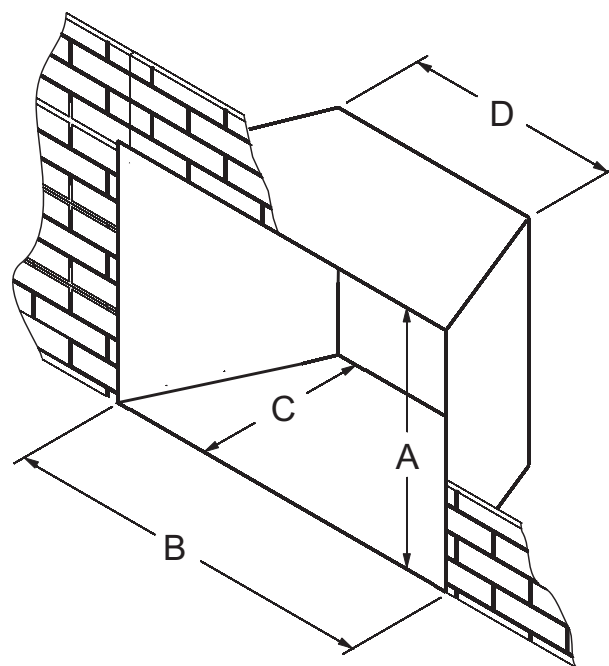

Figure 2
2. Minimum fireplace opening requirements are shown in **Figure 2** of this installation manual. The firebrick (refractory), glass doors, screen rails, screen mesh and log grates can be removed from a fireplace in order to gain minimum gas insert opening requirements prior to installing the gas fireplace insert.